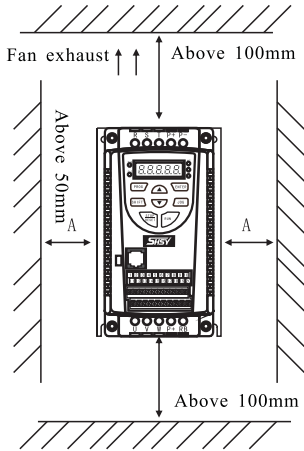

Fig. 3-1 Installation gap
- 2) Make sure the inverter has the enough space for heat emission, the installation space is shown as fig. 3-1. However, when laying it, please consider the heat emission of other parts in the cabinet.